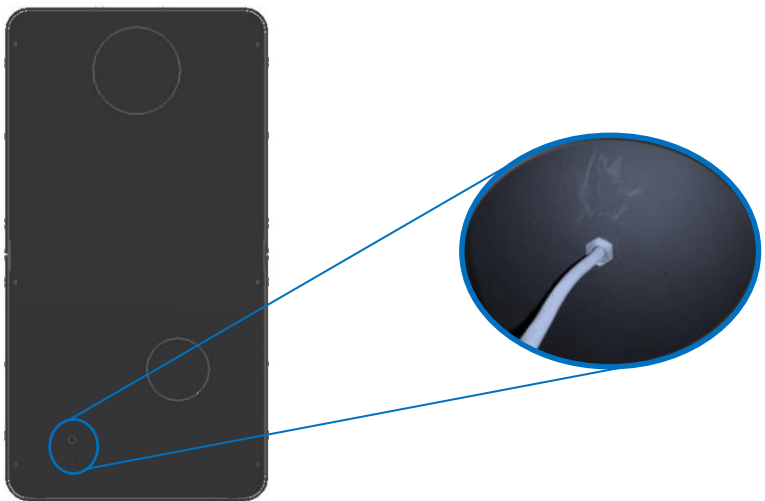

Figure 48 - Cable routing for the ventilation kit
* Pass the electric cable through the hole and tighten the wire passes (Figure 48);